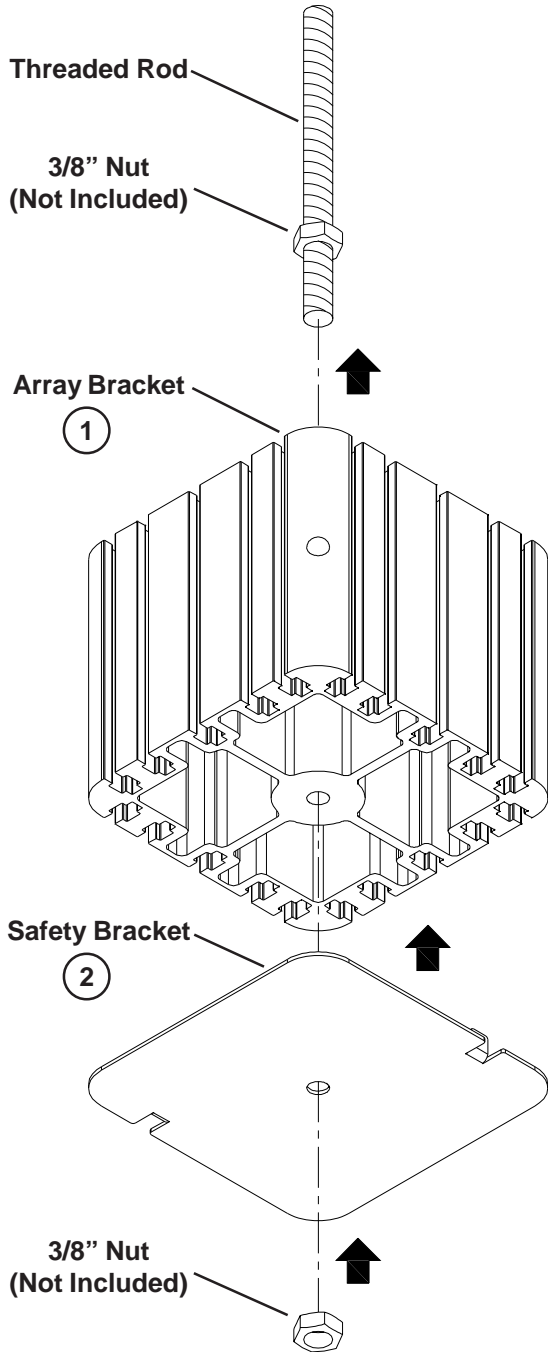

Figure 5:
1. Fasten a 3/8" nut (not included) at least 2.75" from the bottom of the 3/8" threaded rod (Figure 5). Apply non-permanent threadlocker, such as Loctite 242, to the nut.
2. Slide the array bracket assembly and safety bracket (Item 2) over the threaded rod, with the larger diameter hole facing up and the safety bracket tabs locked in the channels of the array bracket (Figure 5).
3. Rotate the array to the desired position, and securely tighten a 3/8" nut on the threaded rod. Apply a non-permanent threadlocker, such as Loctite 242, to the nut, and check to ensure that all threads on the nut are engaged to the threaded rod (Figure 5).